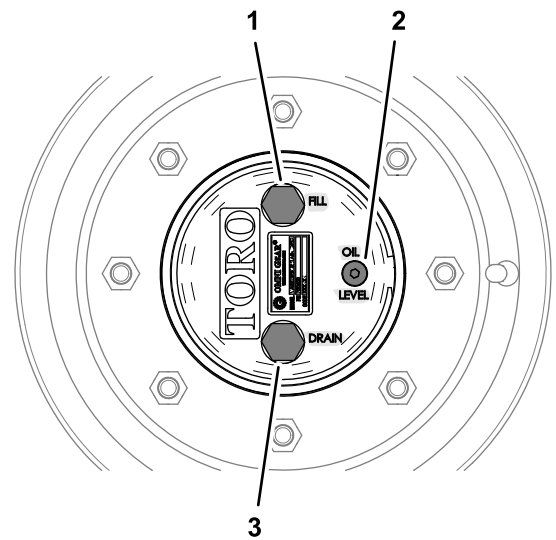

Figure 86
1. With the machine on a level surface, position a wheel so that the fill plug is at the highest (12 o'clock) position and the drain plug is at the lowest (6 o'clock) position (Figure 86).
1. With the machine on a level surface, position a wheel so that the fill plug is at the highest (12 o'clock) position and the drain plug is at the lowest (6 o'clock) position; refer to Figure 86 in Checking the Planetary-Gear-Drive Lubricant (page 66).